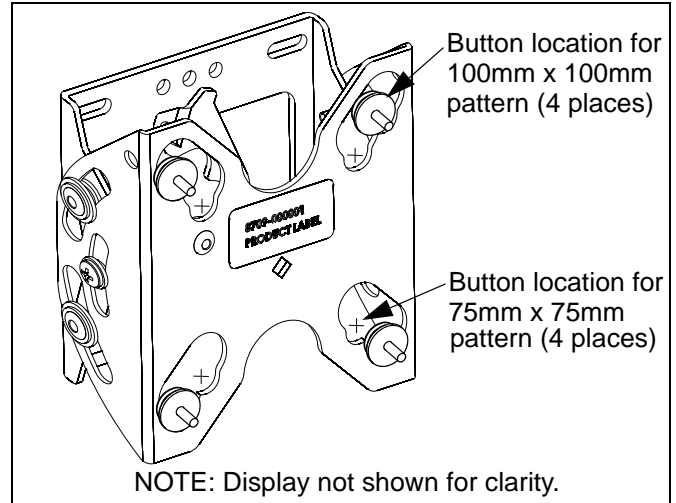

Figure 6: Install Display to Plate
2. Lift and maneuver display such that all buttons fit into button openings on plate (10). Lower display firmly into place. Ensure each button has fully seated in its button opening (See Figure 6).